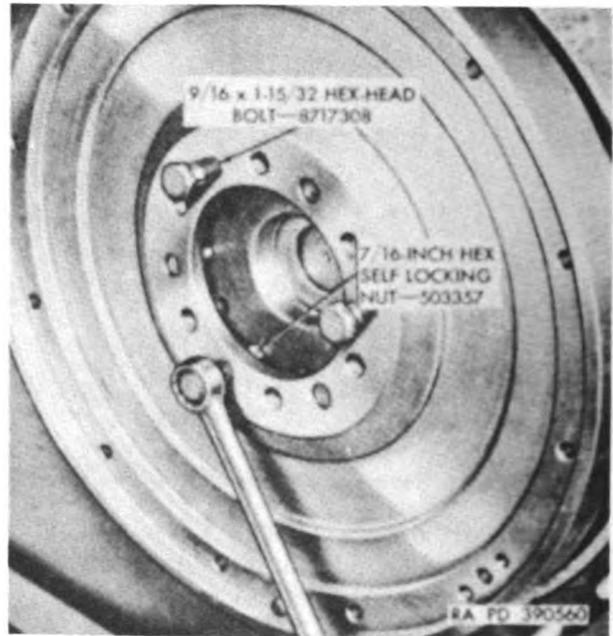

Figure 56. Removing flywheel (model AOSI-895-5 engines only).
(b) Using three of the hex-head bolts removed in step (1)(a) above as jackscrews, pull the flywheel from the crankshaft dowel pins by screwing bolts into holes in flywheel as shown in figure 56.
(c) Pull flywheel as far as threads on bolts will allow. Remove bolts far enough to place  $\frac{1}{16}$ -inch nuts, or other suitable blocks, between ends of bolts and crankshaft flange as shown in figure 56.